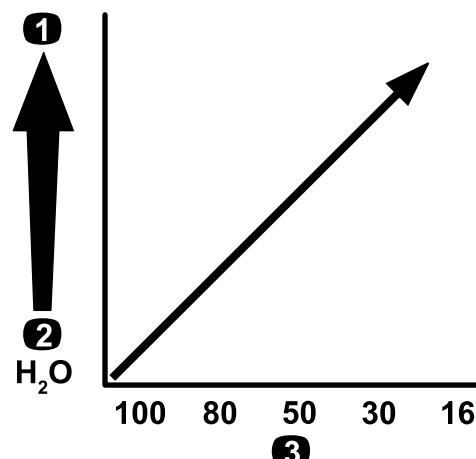

Figure 66
**Important:** When you spray with higher viscosity (thicker) chemical products or solutions with wettable powders, you may need to use a coarser screen mesh for the optional pressure-filter; refer to Figure 66.